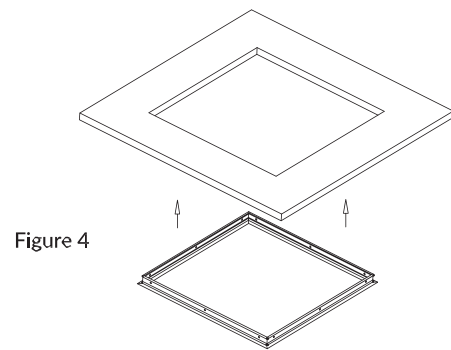

Figure 4
- Insert assembled T-frame kit into ceiling cavity.(Figure 4)